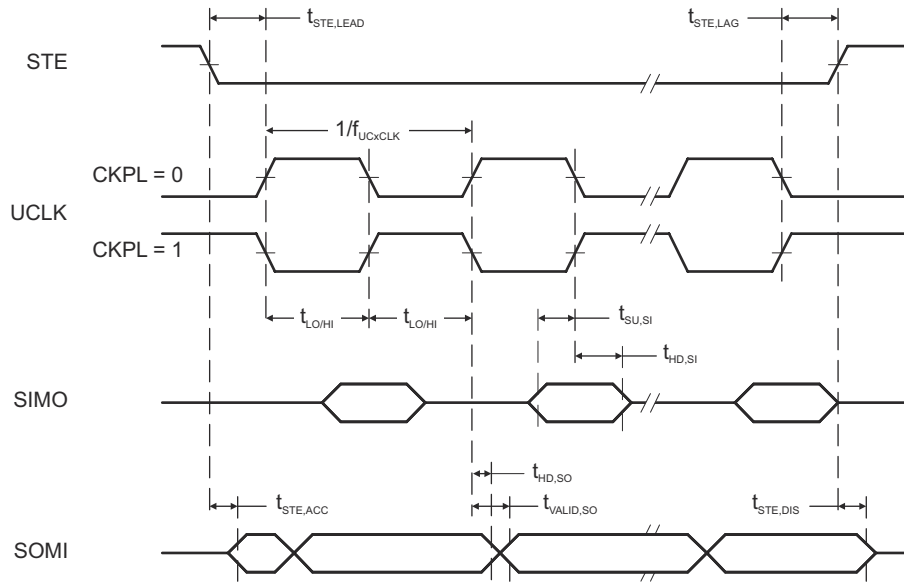
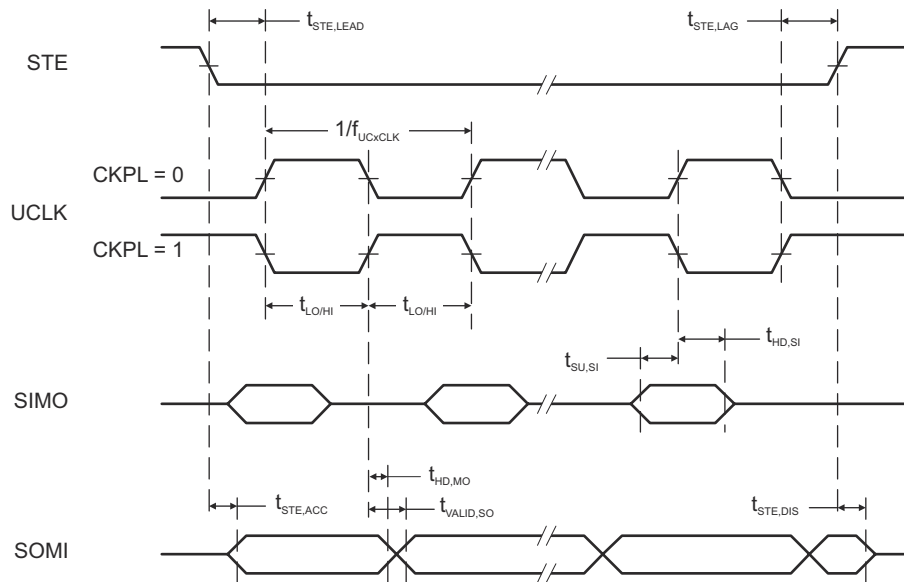

Figure 8-15. SPI Slave Mode, CKPH = 0
Figure 8-16. SPI Slave Mode, CKPH = 1
(see Figure 8-15 and Figure 8-16)
(2) Specifies the time to drive the next valid data to the SOMI output after the output changing UCLK clock edge. See the timing diagrams in Figure 8-15 and Figure 8-16.
(3) Specifies how long data on the SOMI output is valid after the output changing UCLK clock edge. See the timing diagrams in Figure 8-15 and Figure 8-16.